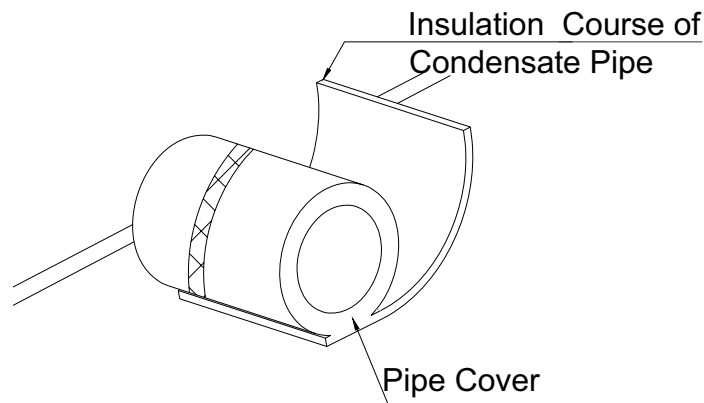

Fig.1.1.10
- ◆ The Drainage Pipeline shall be installed with an inclination angel of $5\sim 10^\circ$, so as to facilitate the drainage of condensate. The joints of the Drainage Pipeline must be covered by thermal insulation materials to avoid generation of exterior condensate. (As shown in Fig.1.1.10)